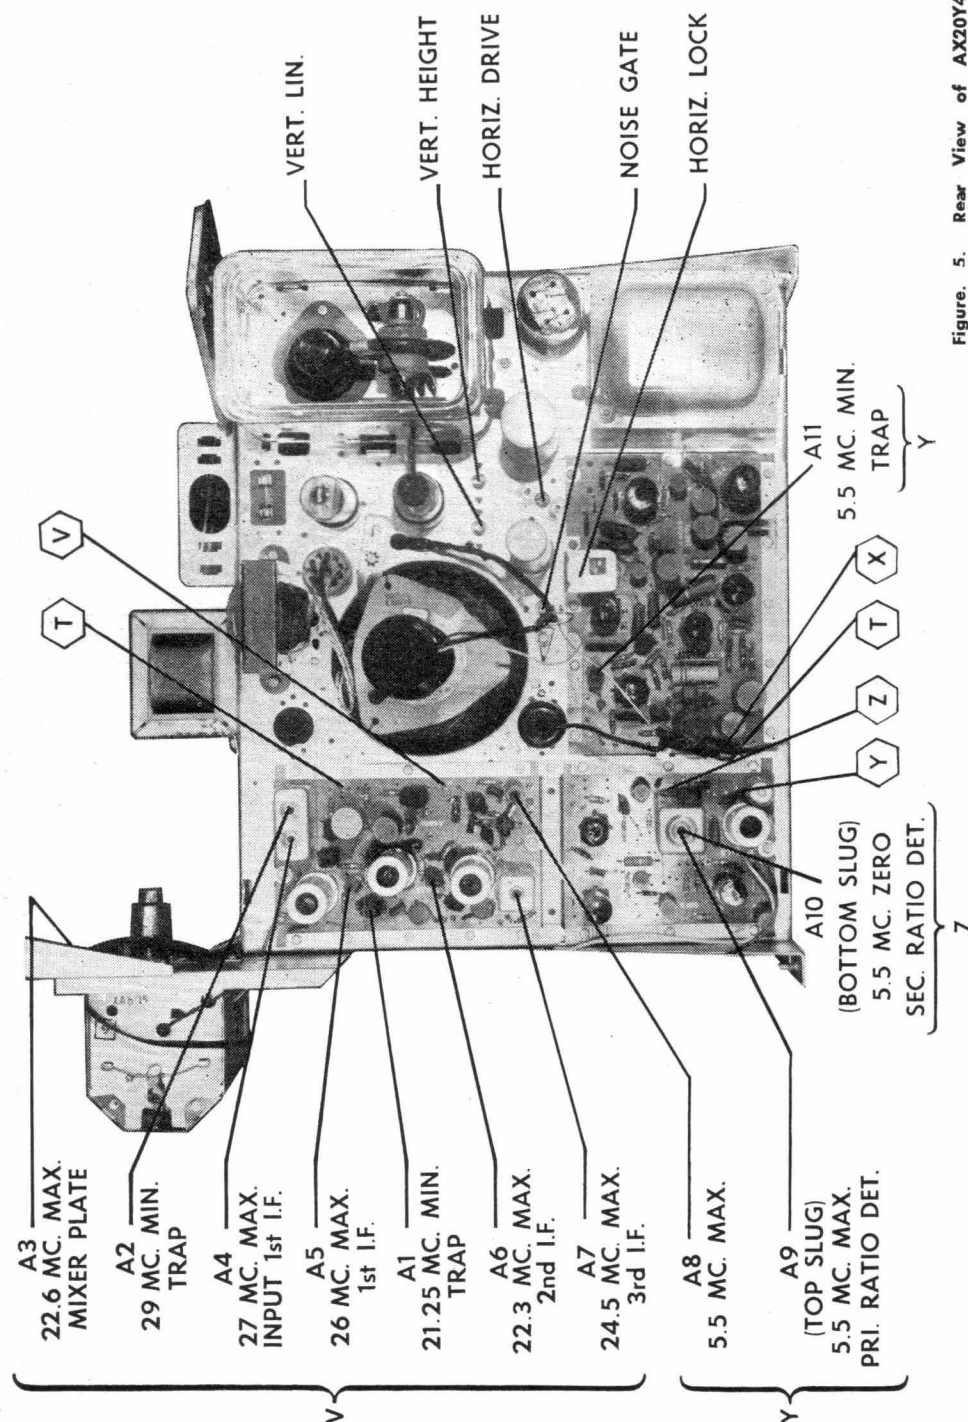

Figure 5. Rear View of AX20Y4 Chassis, Showing Test Point Connections and IF Alignment Data.
After becoming familiar with alignment procedure, some servicemen simplify subsequent alignment of sets by merely using essential alignment data given in figure 5.
- See figure 5 (21 MC sets) for alignment and test point locations.